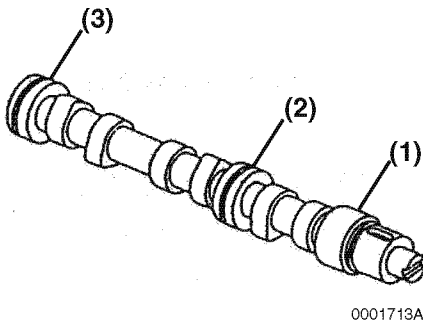

Figure 6-78
4. Measure the diameter of the gear end (**Figure 6-78, (1)**), intermediate (**Figure 6-78, (2)**), and flywheel end (**Figure 6-78, (3)**) bearing journals. Record the measurements. See *Camshaft on page 6-7 for specifications*.